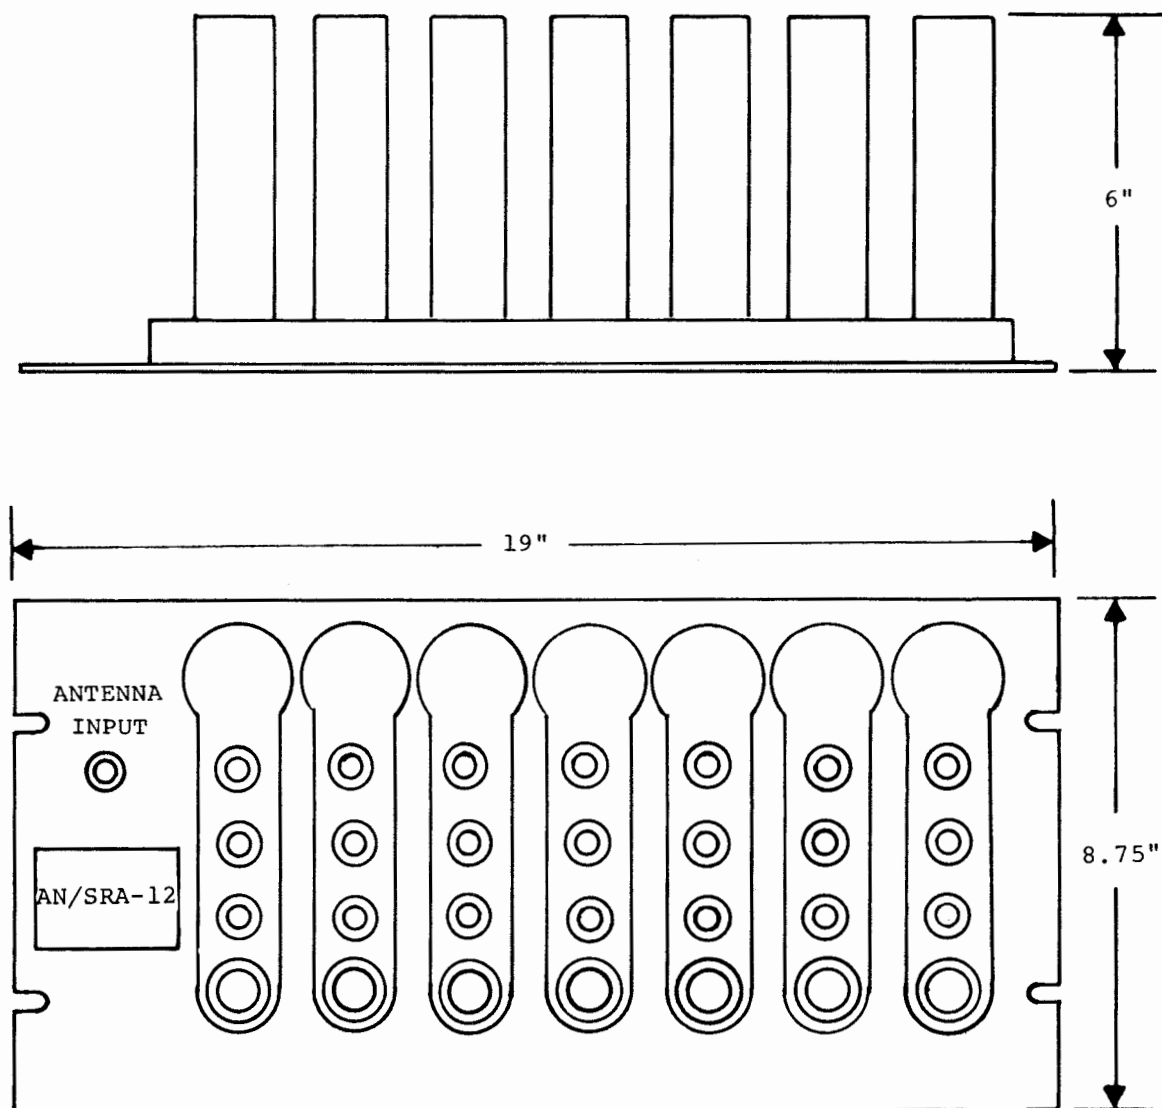

Figure 5-1 Electrical Filter Assembly AN/SRA-12
b. PHYSICAL CONFIGURATION. - See Figure 5-1.